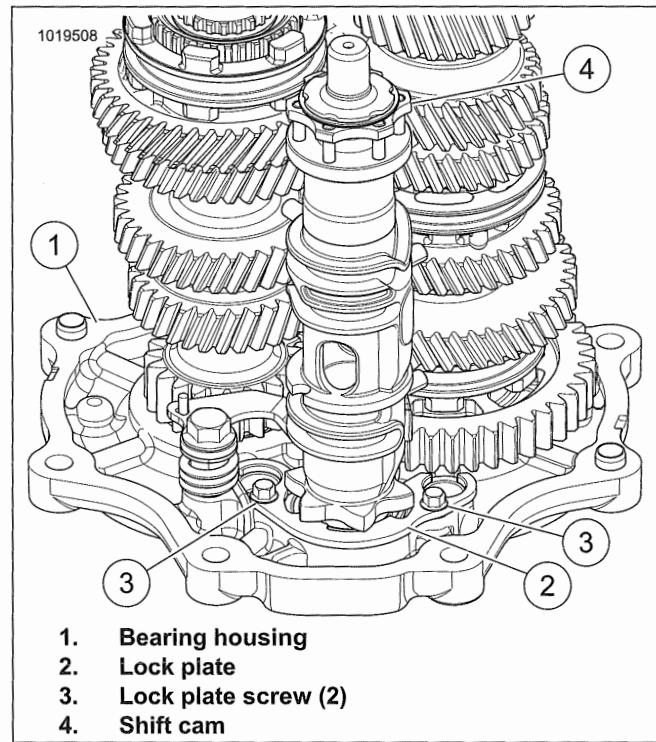
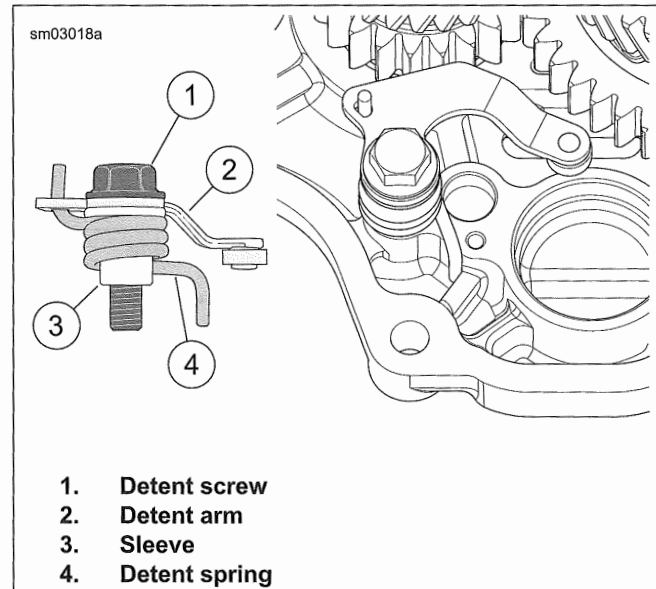

Figure 5-45. Shift Drum
Figure 5-46. Detent Assembly
- Remove shift fork shafts using spiral-flute screw extractor (14) or vise grips.
- See Figure 5-45. Remove lock plate (2). Discard screws (3).
- Hold detent arm back and remove shift cam (4).
- See Figure 5-46. If needed, remove detent assembly.
- Remove detent screw (1), detent arm (2), sleeve (3) and detent spring (4).